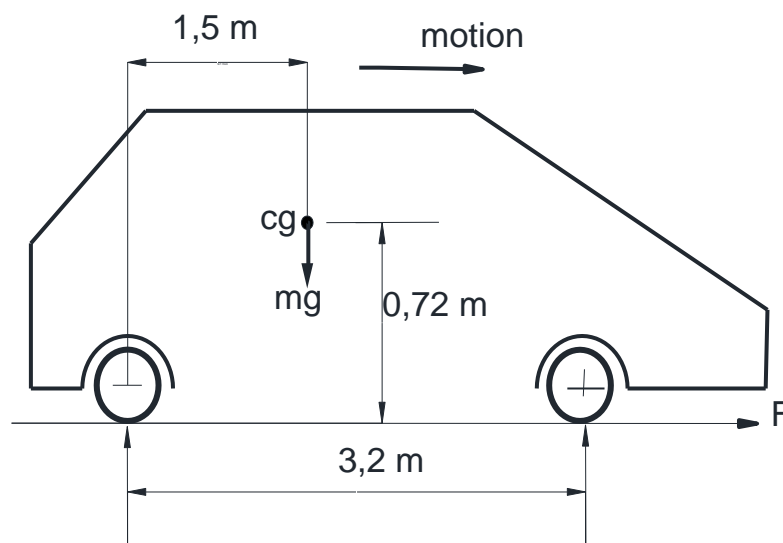

FIGURE 2
- 6.3 A vehicle shown in FIGURE 2 below has a wheel base of 3,2 m and its centre of gravity is 720 mm above road level. The centre of gravity is 1,5 m in front of the rear axle. The vehicle travels at a constant speed of 97,2 km/h on a level road. The coefficient of friction between the wheels and the road is 0,35.